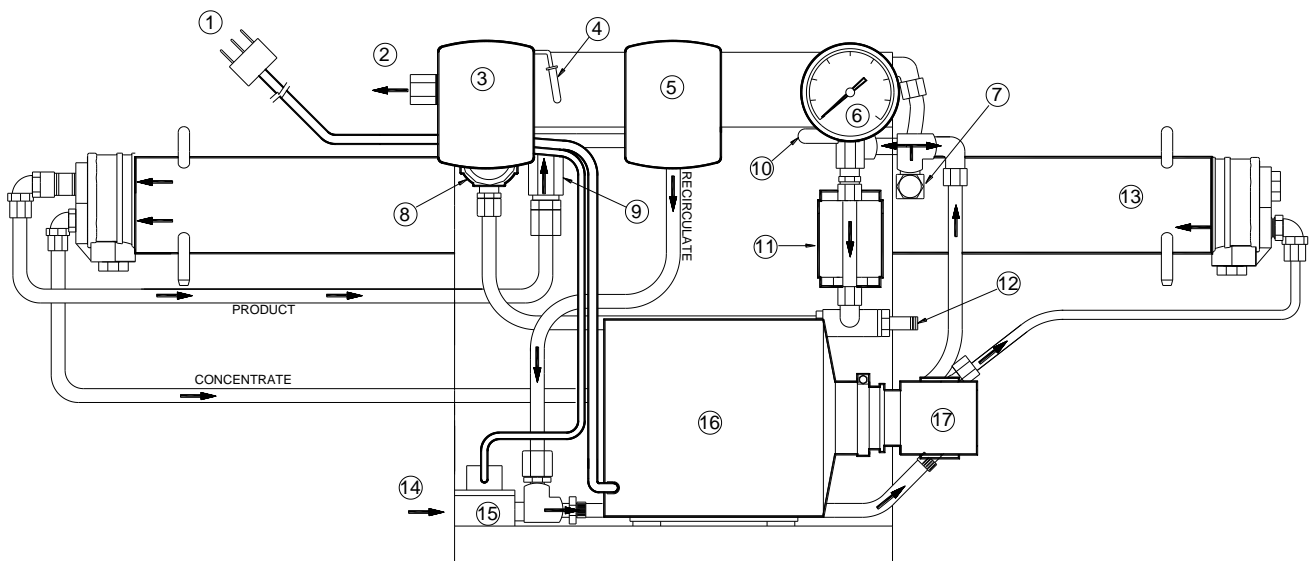
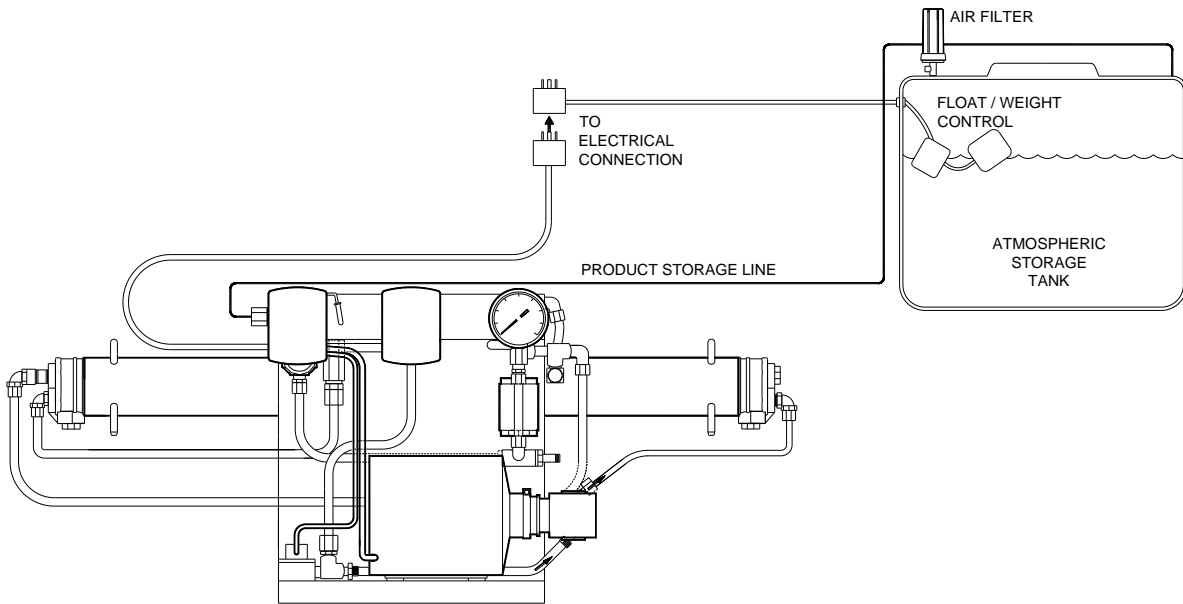

FIGURE 1: CM SERIES BASIC COMPONENTS
FIGURE 5: ATMOSPHERIC STORAGE TANK CONNECTION
1. Install a supply line from the 5-micron pre-filter system to the solenoid valve port (Fig. 1, #14). Check the pre-installation requirements for the pipe size, pressure and flow of this system. If a softener is required, check the hardness of the supply water to the RO it must be less than one grain per US gallon hard. If this system has a thin film composite membrane and your supply water has been chlorinated, you will have to install a carbon pre-filter to remove the chlorine. This will prevent oxidation and subsequent failure of the membrane.
1. Install a supply line from the storage connection (Fig.1, #2) to the storage system. This could be a hydro-pneumatic or an atmospheric tank.
1. Install a line to drain from the concentrate connection (Fig.1, #12) to a suitable drain that will handle the flushing flow rate. Check the pre-installation requirements for this system.
1. Locate an appropriate grounded electrical connection close to the system (check local codes and requirements for the type and size for this system) and connect the grounded power supply (Fig.1, #1). If an atmospheric tank is used connect the power cord to the float connection (Fig.5).
2. Off/Auto On lever: This lever disconnects the power to the pump/motor (Fig1, #4). This lever should be off (up position) when installing the system.
2. Move the Off/Auto On lever (Fig.1, #10) on the tank pressure switch to the auto position (vertical position, turn down). The system should start at this time. If the system cycles on and off, move the lever to the off position. The system has a low/no water pressure switch (Fig.1, #6). This switch is preset by Hydrotech to turn the system off at 12 psi (low pressure) and will turn on when the pressure returns to 25 psi. This cycling is caused by low/no water pressure and or low flow of the supply water. This situation must be corrected before the system will operate properly. Increase the flow and pressure to the required parameters for this system to operate properly. Check the pre-installation requirements.
3. The fast flush valve (Fig.1, #14) should be in the open position (vertical position, turn counter
4. After flushing, close the flush valve slowly. The pressure gauge (Fig.1, #14) should show 150 to 200 psi maximum operating pressure. Run the system until it shuts off. The system has a pressure switch (Fig.1, #9) to control the storage tank pressure. This switch is preset by Hydrotech, to turn off at 60 psi and will turn on at 40 psi. If an atmospheric tank is used, the float switch (Fig.5) will shut the system off when the tank is full. Add 6 milliliters of chlorine bleach (5-1/4% chlorine) to every 1 gallon of capacity into the tank, after one-hour drain the tank. This will help sanitize the tank
3. With the system running, open the flush valve (Fig.1, #10) by turning the valve straight down. Let the system flush for 3 minutes. This will scrub the surface of the membrane and send the concentrate to the drain.
1. Move the off/auto on lever (Fig.1, #4) to the off position.
2. Disconnect the RO electrical plug from the storage tank connection receptacle and remove the float switch connection receptacle. Replace the RO electrical plug into the wall receptacle (Fig. 5).
4. With the system operating, open the flush valve (Fig.1, #10) by turning the valve straight down. Let the system flush for 3 minutes. This will scrub the surface of the membrane and send the concentrate to the drain. Close the flush valve.